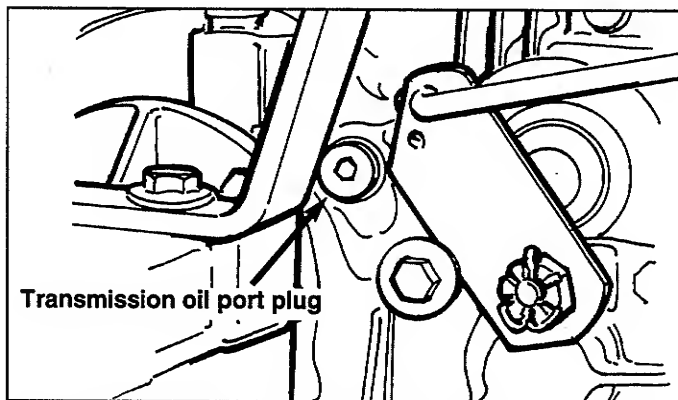
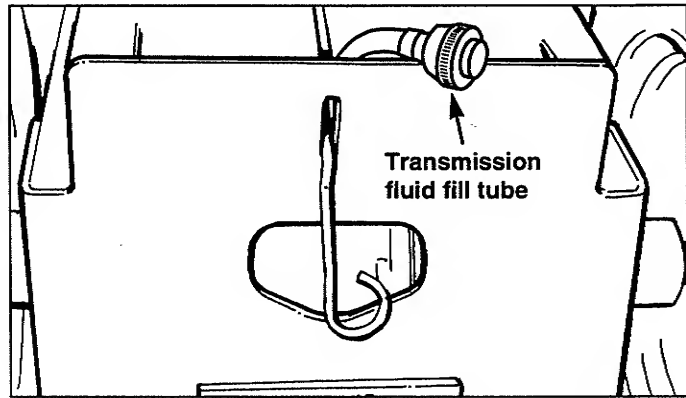

Figure 26A. Transmission Oil Port Plug
Figure 26B. Transmission Fluid Fill Tube Located at Rear of Tractor
Transmission fluid should be checked with the engine off. Remove plug (figure 26A). Fluid level should be to the bottom of the hole. If fluid level is low, add fluid (10W 40 oil) to the fill tube (figure 26B) until proper level is reached, then reinstall drain plug.
2. Remove oil port plug (figure 26A).
3. Add 10W 40 oil (76 oz.) to the transmission fluid fill tube (figure 26B) until oil just starts to run out of the oil port (figure 26A). Reinstall oil port plug.